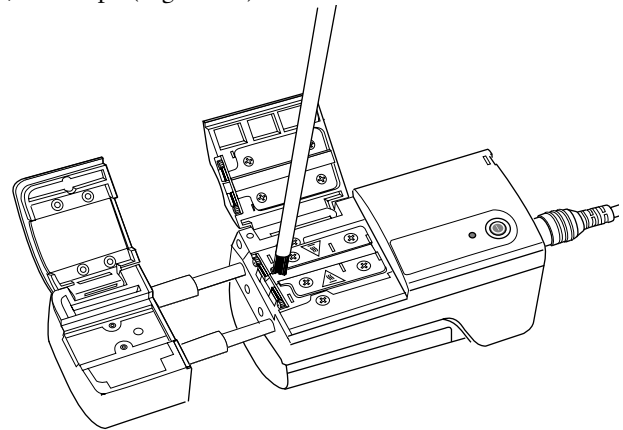

Figure 10
4.7 Thoroughly clean the stripper with a brush, removing the stripped coating from the heating element, blade, and flaps (Figure 10).